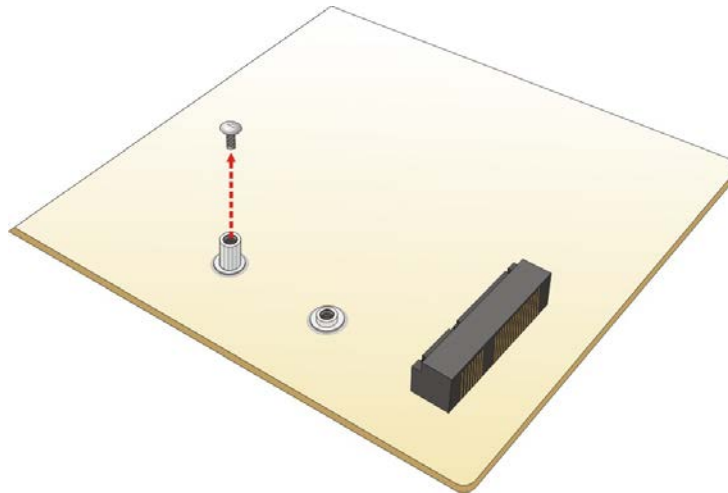

Figure 4-2: Removing the Retention Screw
Step 2: Remove the retention screw as shown in **Figure 4-2**.